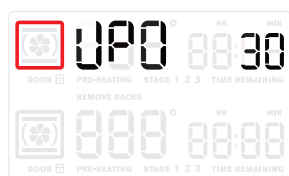

Figure 29: Oven temperature set 30° higher than default
1. Press **user pref** until **UPO** appears in the display. The default setting of **0** should display next to **UPO** (Figure 29).
2. To increase the oven temperature by 30°F, press **+hi** until **3 0** appears next to **UPO** (Figure 29).